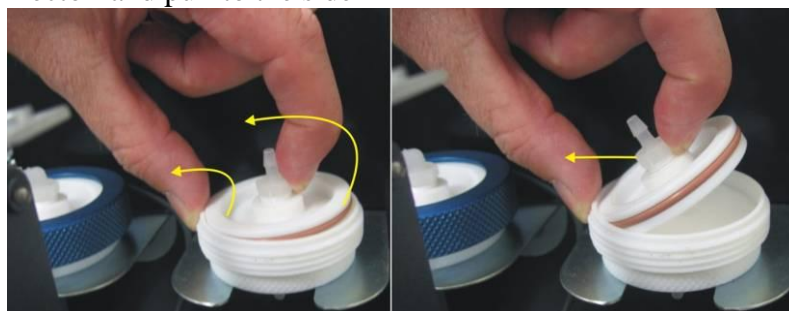

Figure 22 Removing plunger
2. Slide open (Figure 22) to access the particulate filter (located in front right hand corner)